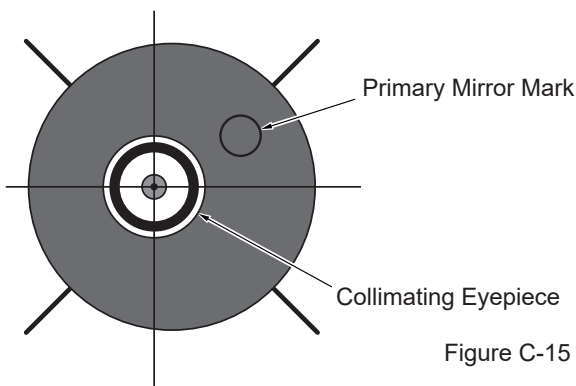
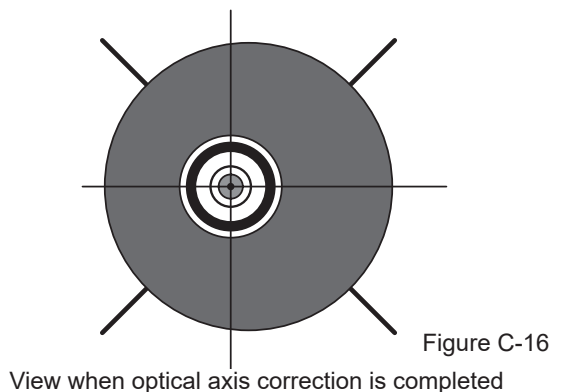
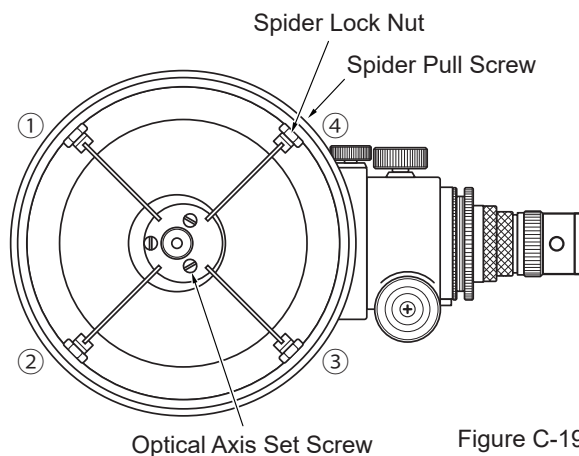
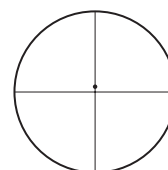

Figure C-15
Figure C-16
Figure C-19
Figure C-21
To collimate the primary mirror, simply align the primary mirror mark with the secondary mirror mark. The primary mirror is adjusted by pushing and pulling the three collimating screw sets. Moving only one will deform the mirror and adversely affect its shape, so loosen the other two screw sets simultaneously. First, loosen the primary mirror collimating screws (3) on the side of the bottom ring. After adjusting the optical axis of the oblique mirror, if the primary mirror mark is off as shown in Fig. C-15, press the screw on the A side. While adjusting the other screws, adjust so that the primary mirror mark, the secondary mirror mark, and the collimating eyepiece are concentric as shown in Fig. C-16.
3. Next, when you check the position of the secondary mirror mark again, it should be above the intersection of the crosshairs as shown in Fig. C-21. In this case, loosen 1 and 4 in Fig. C-19 and tighten the screws 2 and 3. The secondary mirror mark approaches the intersection of the crosshairs, so when you come to the horizontal line, look up and down again to check the widths, firmly squeeze the spider pull screw, and set the lock nut with a spanner. Perform adjustments as necessary until it becomes as shown in Fig. C-16.